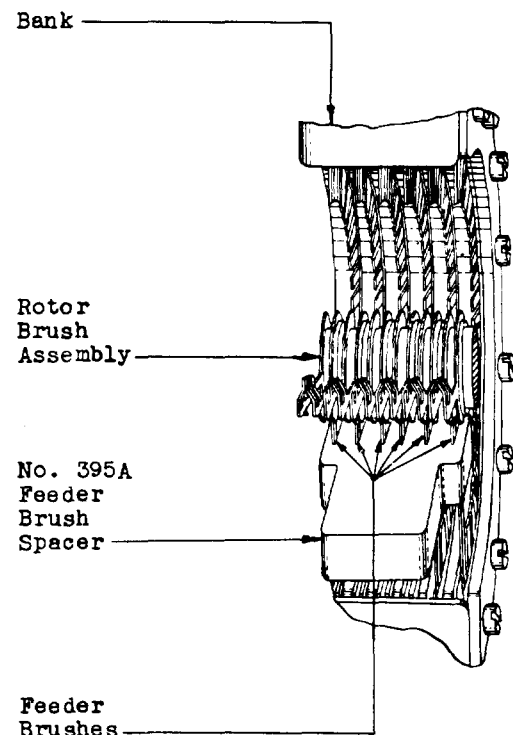

Fig. 4 - Method of Using No. 395A Feeder Brush Spacer
3.09 Rotate the brushes so that they are approximately horizontal and place a No. 395A feeder brush spacer over each set of feeder brushes in the position shown in Fig. 4. Remove the four selector frame mounting screws with the 4" regular screwdriver. Grasp the frame of the selector with the left hand near the driven disc and the right hand at the stirrup end. Pull the frame directly out until the feeder and rotor brushes are free. Using the left hand as a pivot, turn the frame of the selector away from the banks. After turning the rotor brush assembly so that it clears the bank shift the rotor bearing pin to the right sufficiently to release the end of the rotor shaft. With the right hand, remove the rotor brush assembly from the selector.